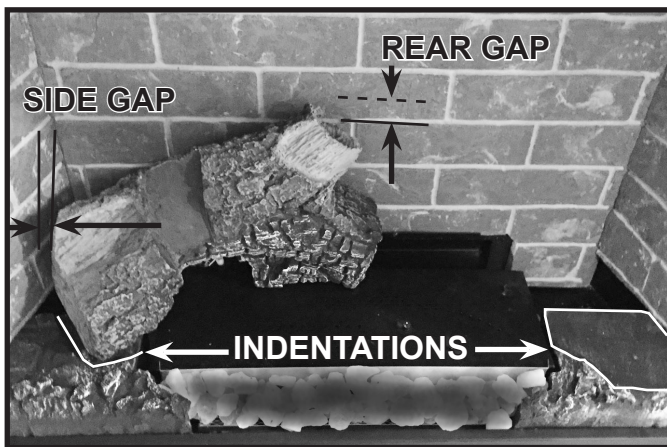

Figure 4. Rear Left Log Installed
The log pins, along with the indentations in the hearth components, will aid in correctly positioning the two rear logs and small burner log. The indentations are shown in Figure 4.
Additionally, the rear left log and rear right log are located by indentations in the right and left hearth components. See Figure 4.
1. Remove large rear left log from the packaging and install the log by locating it on the back left log pin(s). The left side of the log will reside within the indentation in the left hearth component. See Figure 4.
Note: SL-3X models do not utilize hearth indentations. See Figure 4.
SL-7X and SL-9X Models: The rear left log will be positioned to maintain about a 1/4 inch rear gap between the rear left log and the back wall refractory. There will be about a 1 inch side gap between the left end of the log and left panel. See Figure 4.
SL-3X Models: The rear left log will be positioned to maintain about a 1/4 inch rear gap between the rear left log and the back wall refractory. The rear left log will contact the left refractory panel (no side gap). See Figure 4.